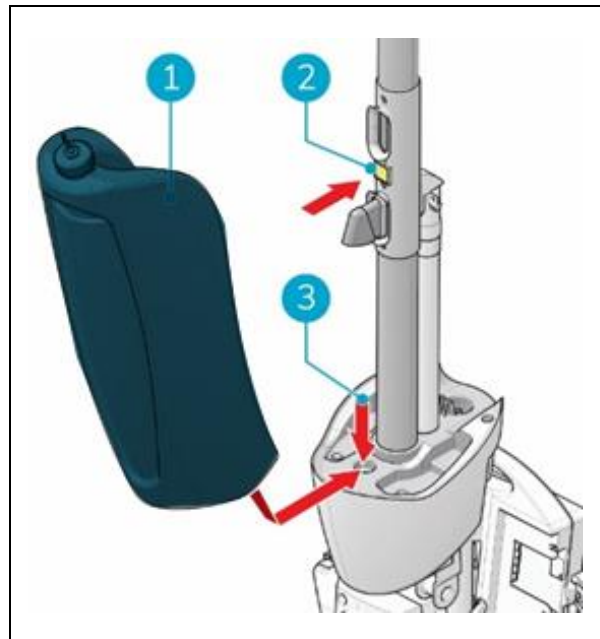

Figure 13
1. Put the bottom of the recovery tank (Figure13, pos 1 and pos 3) on the front of the i-mop® XXL.
2. Push the top of the tank into place until you hear a 'click' sound, the magnet (Figure13, pos 2) will lock the recovery tank into place.